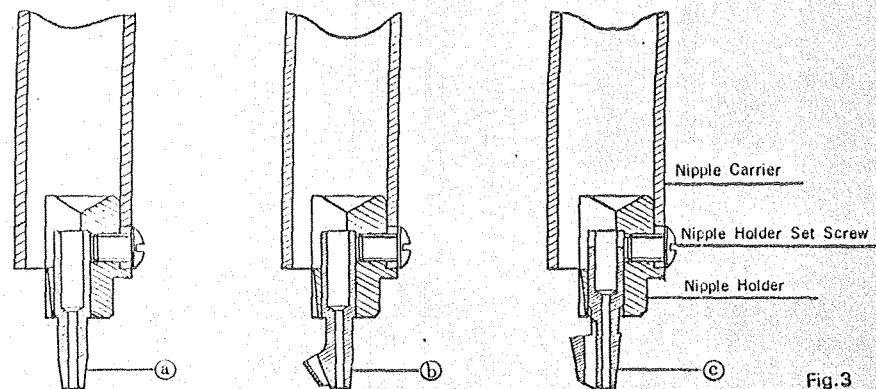

Fig. 3
5. NEEDLES, NIPPLES AND THREAD (Fig. 3)
The nipples for TREASURE ES-1114-10 are available in the following kinds, as per Fig. 3.
Next, insert the selected nipple ⑮ into the lower part of nipple holder ⑯ and tighten screw securely with the screwdriver. Insert the nipple holder ⑯ into the nipple carrier (Fig. 3) and tighten screw securely. Screw selected needle into needle bar ④ and tighten with pliers provided. Replace needle bar ④ down into sleeve and adjust its height so that the fabric to be embroidered can just pass under the point of the needle.